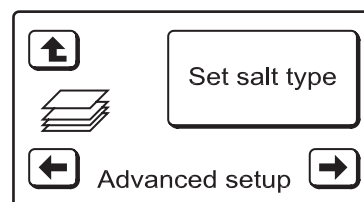

FIG. 67
4. Press the **RIGHT** (→) button to display the screen shown in Figure 67.